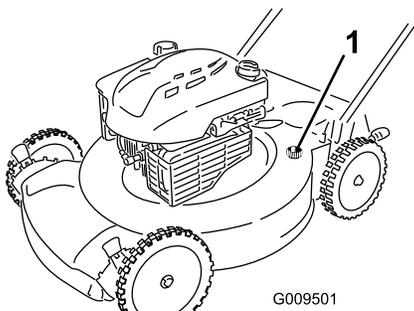

Figure 32
- Attach a garden hose that is connected to a water supply to the washout port (Figure 32).